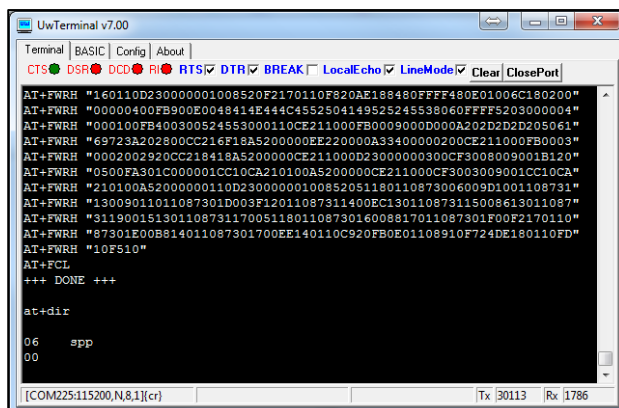

Figure 10: Compiled and downloaded application
3. Click **Open**. The *smart*BASIC application is now compiled and downloaded to the module (Figure 10).